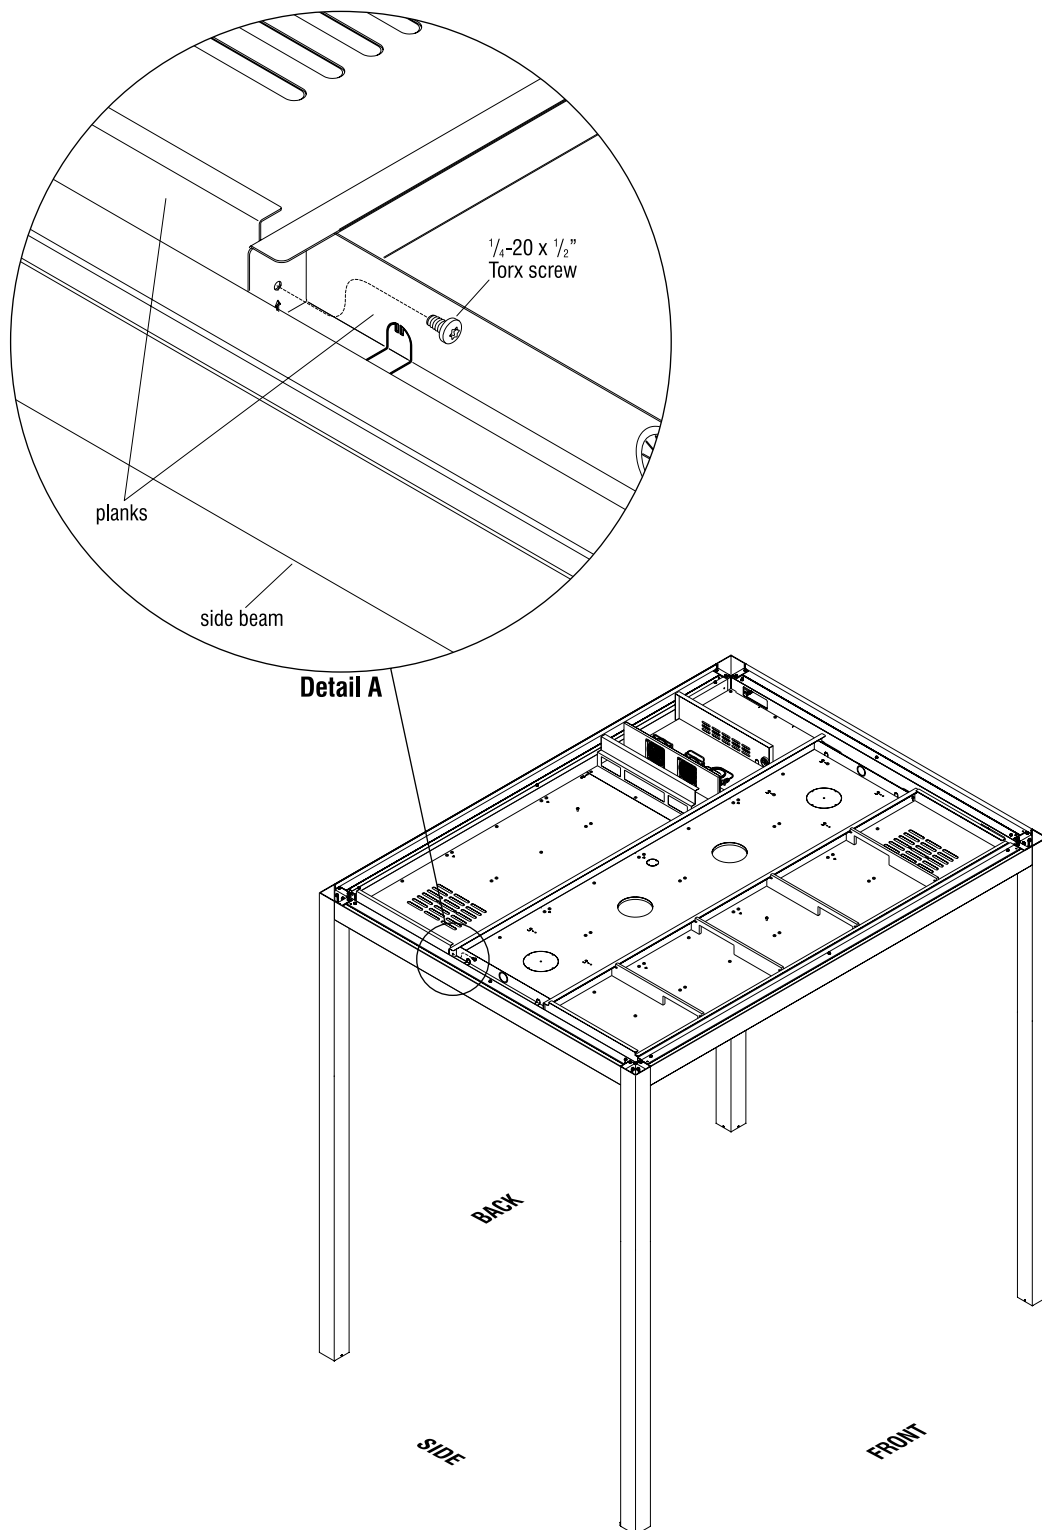

Figure 9
5. Once all planks are in place, they must be attached together. Above the planks near the beams, locate the mounting holes on the vertical flanges of each. Align the mounting holes and secure the flanges together using a  $\frac{1}{4}$ -20 x  $\frac{1}{2}$ " Torx screw between each ceiling plank. Complete this at locations where each ceiling plank meets, and at both sides of the room (Figure 9 & Detail A).